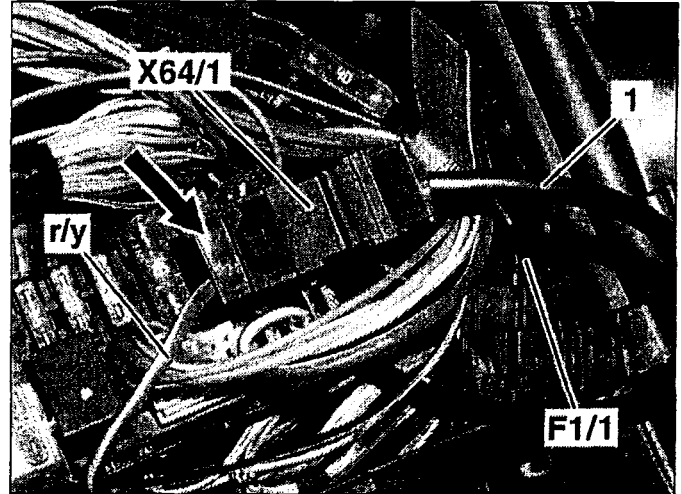

Figure 6
7. Connect the new harness connector (arrow, Figure 6) to the harness connector on the new blower motor harness wire (1) and place coupled connector (X64/1) below right front SAM in the right fuse box (F1/1).